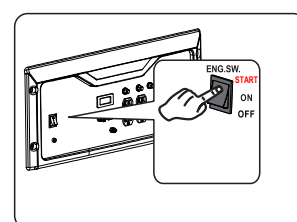

Fig 12 Electric Start
- For electric start, Push and hold the engine START/ON/OFF switch in the “START” position. Do not hold the START/ON/OFF switch in the “Start” position for more than 15 seconds. Allow 1 minute between starting attempts. (See fig 12)